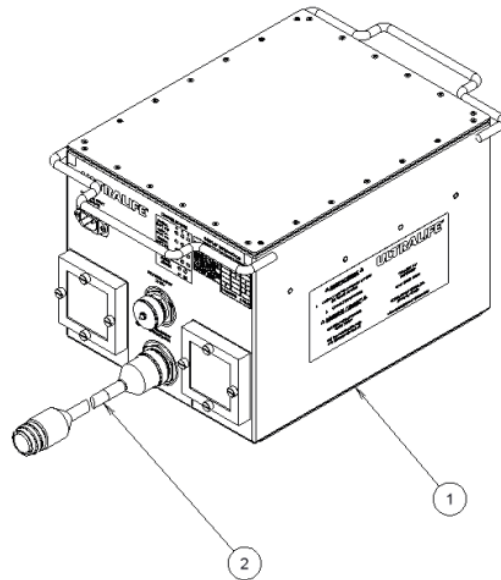

Figure 3-9 Charger Box with Charge Cable
9. Attach the charger output cable to the Charger Box output connector and the other end to the Battery Box charge input connector as shown in Figure 3-9. Note the callouts as follows: